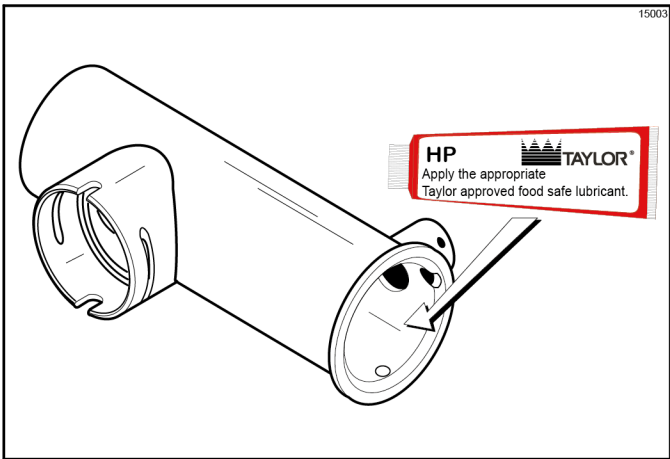

Figure 6-21
5. Apply a small amount of lubricant to the lower inside diameter of the pump cylinder to a depth equivalent to the length of your index finger. Once applied, the amount of lubricant should be equal to a paper-thin film. (See Figure 6-21.)